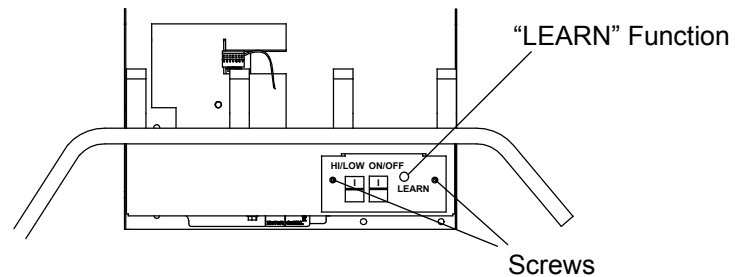
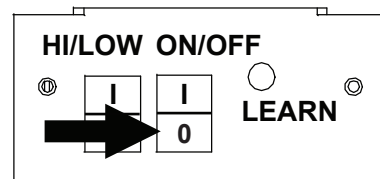

Figure 15 - Burner System switches and Battery location
Figure 9a - Burner System Receiver Switch in OFF Position
1. Remove the two phillips screws at each side of the battery holder and remove holder. Be careful with the attached wires. (see figure 15)
To program your burner system to accept commands from your handset, the “LEARN” function (see figure 15) is used.
7. Locate Burner System controls on the right front (see **Figure 15**, page 12. Make sure that the ON/OFF switch for the burner is in the OFF position. (see **Figure 9a**)